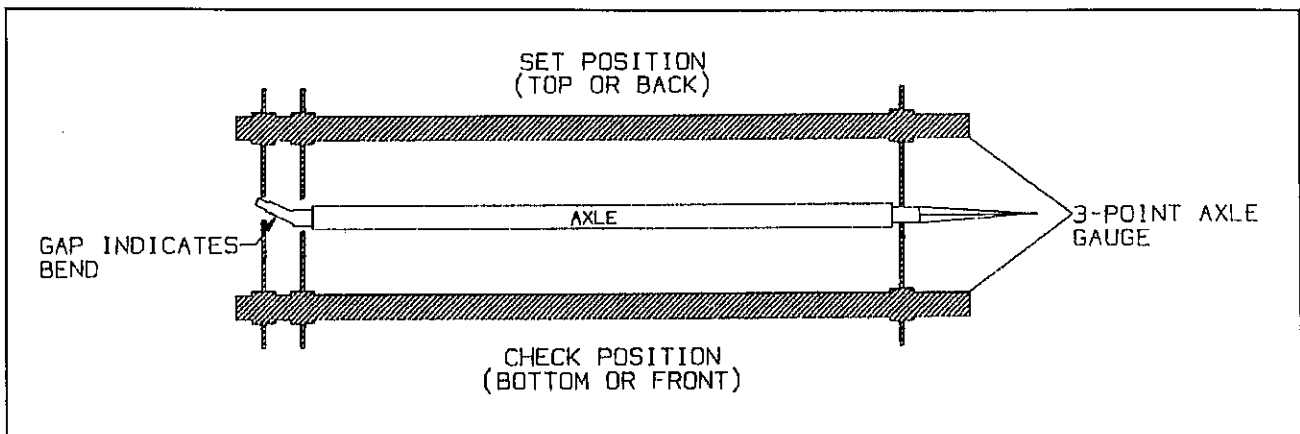

Fig. 4-8 Checking Axle for Bend
- b. Place a 3-point axle gauge against the front side of the axle, and adjust each axle gauge point to the axle. (Double point end against the inner and outer wheel bearing surfaces of the spindle being checked and the other point on the inner bearing surface on the other spindle)(see Figure 4-8).
- c. Move the axle gauge and place against the back side of the axle. If either of the points of double point end fails to touch the axle surface, a bent spindle is evident. A point gap of .015" or more is considered excessive tire "toe" and the axle must be replaced (see Figure 4-8).